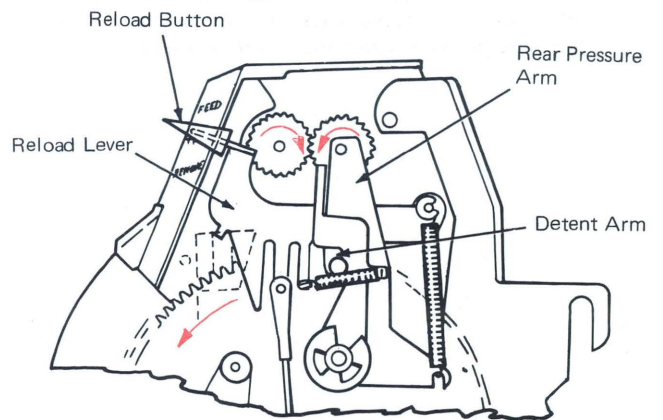

Figure 9 – Type Mode (Right Side View Level 2 And 3)
A ribbon reload button provides the typist with a means of controlling the ribbon feed mechanism when removing and installing the ribbon. The reload button is mounted on the ribbon reload lever and detented in one of three positions by a spring loaded detent lever (Figure 9).
1. *Type Position* – When the reload lever is positioned in the “TYPE” mode, the ribbon will feed normally as each typebar is operated (Figure 9).